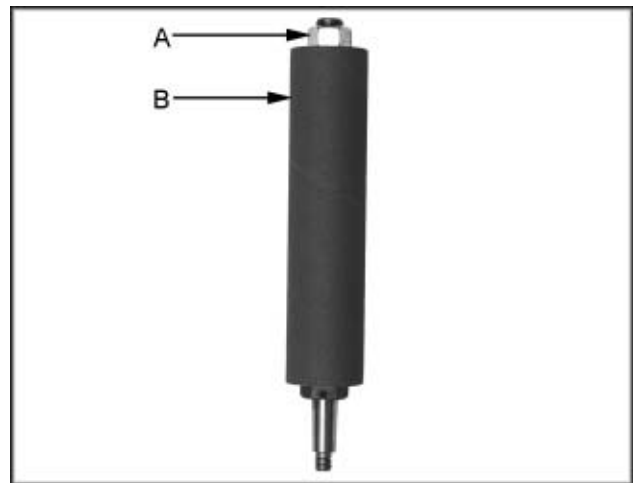

Fig. 7
1. Loosen hex nut (A, Fig. 7) with a 26mm wrench, or large adjustable wrench.
2. Slide the sanding sleeve (B, Fig. 7) off the drum and replace with a new sanding sleeve. **Note:** If the sanding sleeve is not easily removed cut the sleeve off and clean the drum before reinstalling a new sleeve.